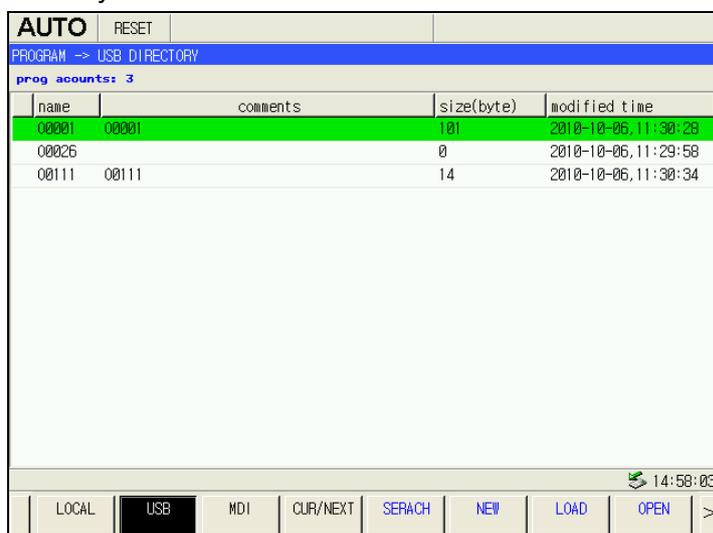

Fig. 9-2
pressed, USB is pressed to enter the U disk file directory. As shown in Fig.9-2, press
2. Press **SYSTEM** to enter the system window, press **MEMORY DEVICE** to enter the file management display window as shown in Fig.9.2: